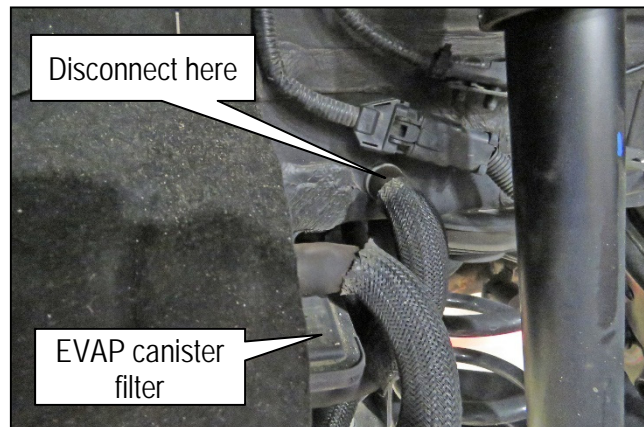

Figure 2
4. Disconnect the EVAP canister filter vent hose from the white plastic EVAP hose connector at the frame and remove the hose from the vehicle (Figure 2).